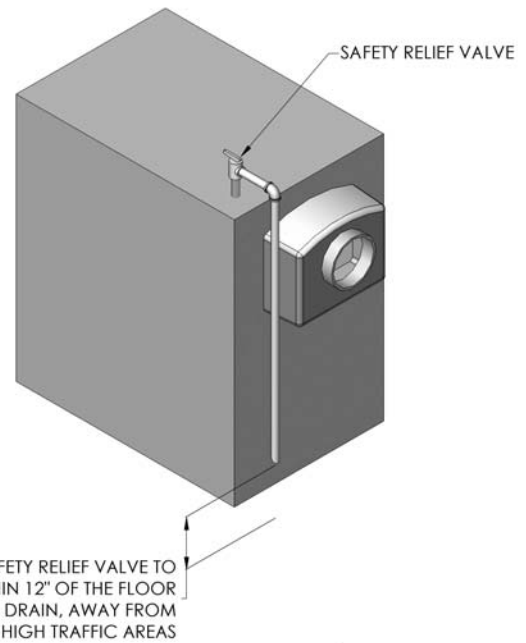

Figure 3.13: Safety Relief Valve Installation
- a) Install a Safety Relief Valve on the 1-1/4" NPT tapping at the top of the rear section for both steam and water boilers as shown in Figure 3.13.